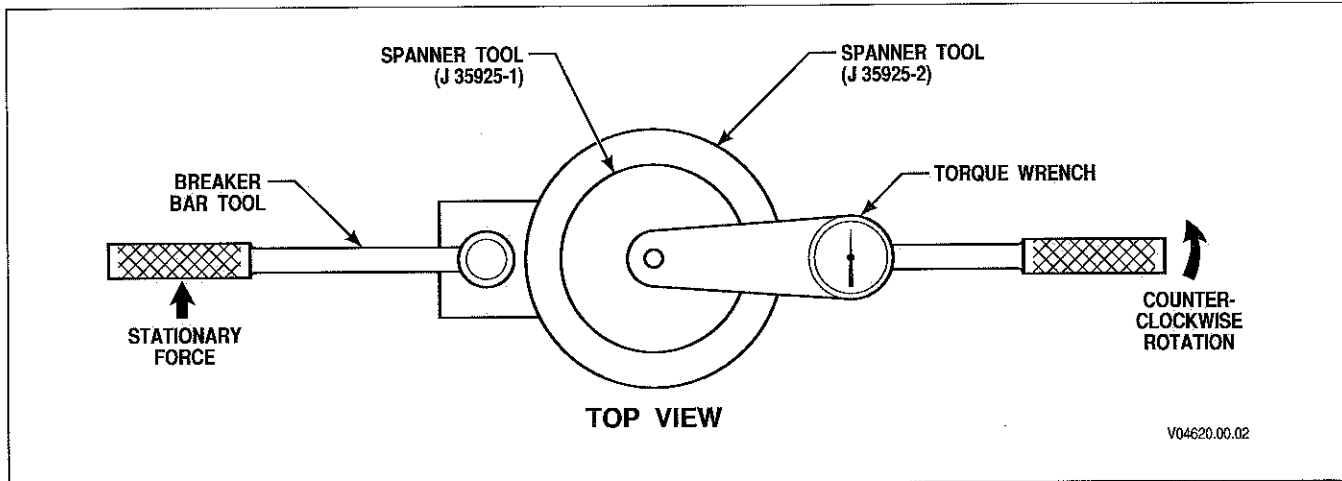

Figure 5-17. Tightening Output Spanner Nut
Over-tightening bearing retainer nut 54 will damage bearing rollers and cone 13 and 52. If the torque wrench and breaker bar positions in Figure 5-17 are reversed, the output spanner nut will be overtorqued. Be sure wrenches are positioned **ONLY** as shown in Figure 5-17.
6. Install and tighten bearing retainer nut 54 using special tools J 35925-1 and J 35925-2. Place the torque wrench and a breaker bar as shown in Figure 5-17. Rotate the torque wrench in the counterclockwise direction and tighten the nut to 145–155 N·m (107–114 lb ft). If the retarder module is installed on a transmission, see Section 6 assembly instructions for correct torque specifications.